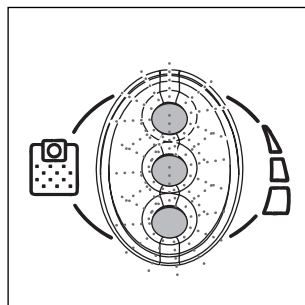

fig. 6
### **EPS (Electronic Protection System) dust bag full indicator (G) (fig. 6)**